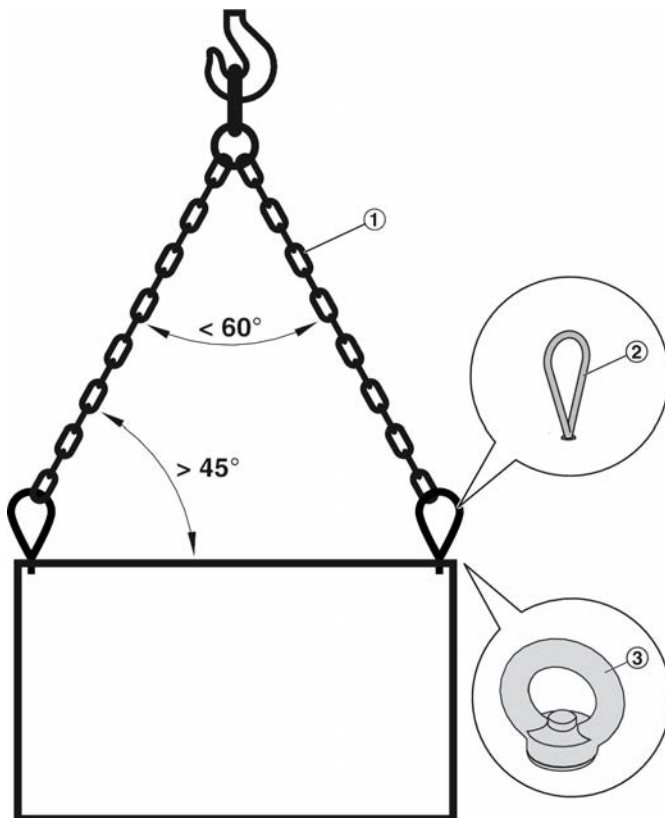

Fig. 12: Using lifting eyes for moving units with a crane
Insert all lifting eyes ( Fig. 12 /2) into the threaded holes.
- ▶ Hook the slings ( Fig. 12 /1) into the lifting eyes or eye nuts.